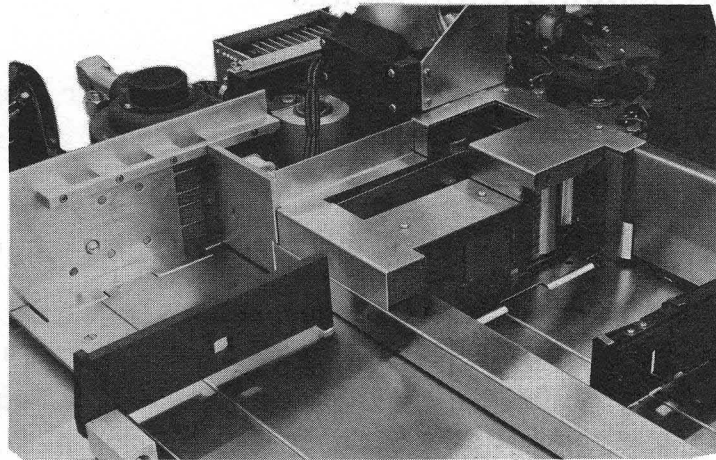
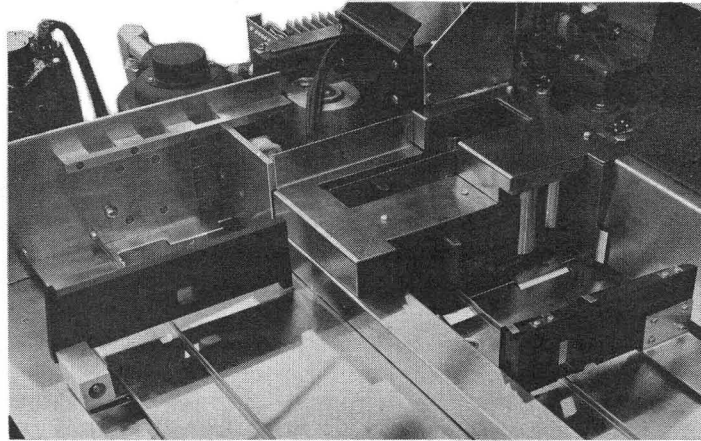

Figure A-2. Card Trays Set for 80-Column Cards
Figure A-3. Card Trays Set for 51-Column Cards
3. Check input wall of secondary and main receiving trays if 80-column (long) cards are used. Hinged card-stopping blocks should be positioned so that a flush surface is formed at each input wall (Figure A-2). The hinged block assemblies must be pivoted to protrude from the wall surfaces of each receiving tray if 51-column (short) cards are to be used (Figure A-3).
4. At input tray, set card-stopping pin to protrude from the face plate if short cards are to be used. Turn pin clockwise to form flush wall if long cards are being used (Figures A-2 and A-3).